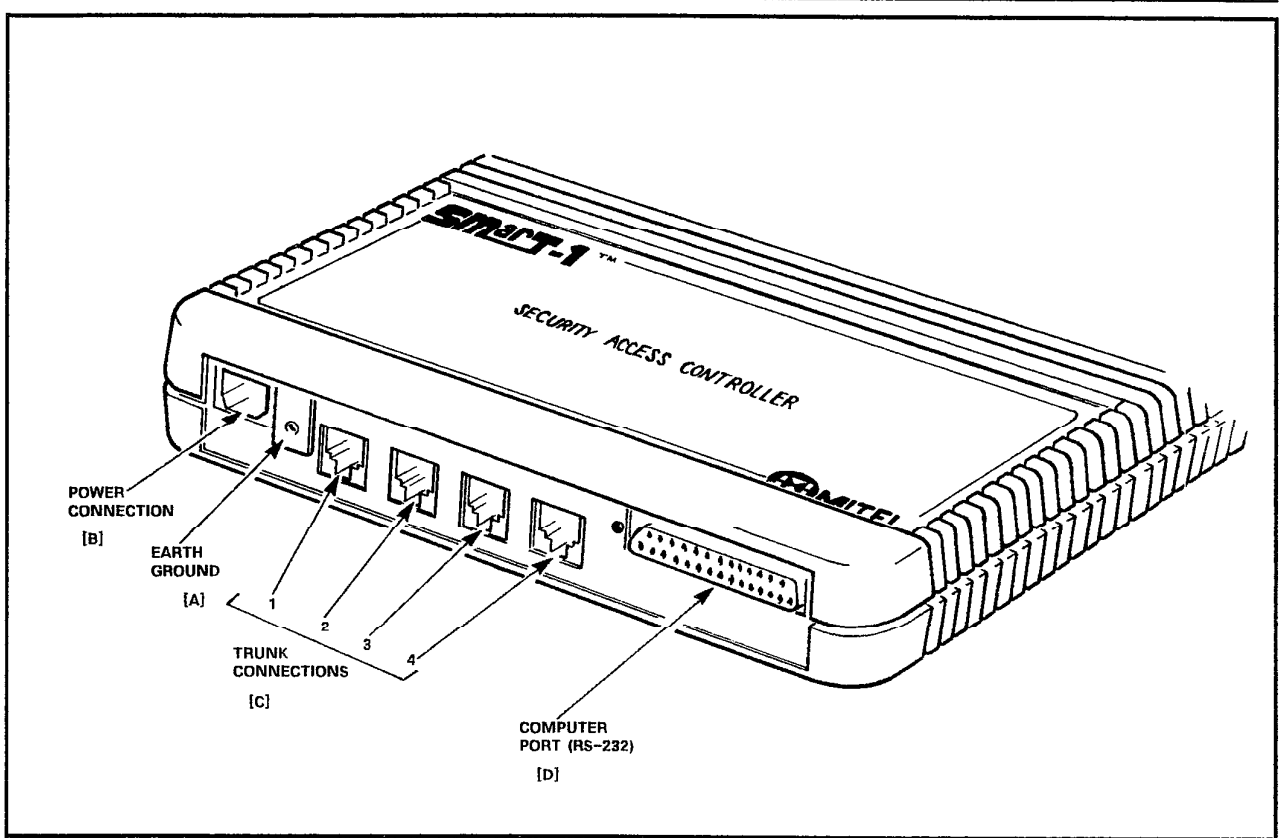

Figure 4-3, Controller I/O Connections
- 4.11 Connections to the Controller are made at the Connector Panel located along the bottom edge of the housing. Figure 4-3 illustrates the connection panel. The steps below outline the connection
- 1) Refer to Figure 4-3. Connect a suitable Earth Ground to the screw mount [A] provided on the connector panel. This connection **MUST** be made for the unit to function properly.